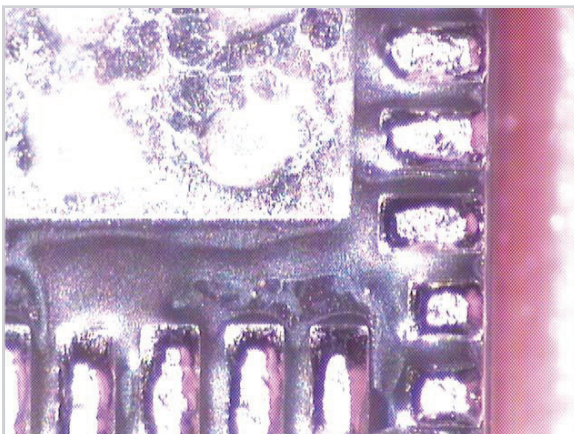
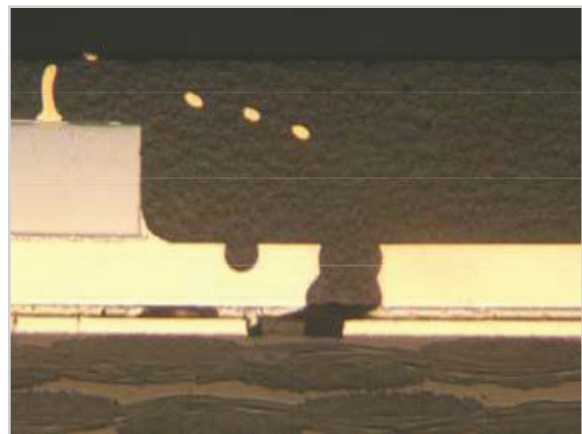

Figure 9 Goeey Flux Under Mechanically Removed QFN, Creating Pathway Between Pads and Ground
Figure 10 Cross-Section of QFN With 0.5 mil Standoff and Shifting to Reduce the 10 mil Gap to 4 mil
- 3 Surface mount flux entrapment** – on low standoff SMT components, such as QFNs, Power FETs and FLGAs, flux from the solder paste can be trapped underneath, where the solder paste flux hardens over the perimeter edges, trapping the volatiles under the part. This leaves goeey flux that is conductive and corrosive between ground and the back edge of the perimeter pads. These residues will stay goeey and conductive even when the reflow solder reaches liquidous and is held there for 3 minutes (Figure 9). Even though the solder is at temperature, the hard shell that forms at the edge blocks the venting of the volatiles that are designed to separate, keeping them under the component. These components that sit tightly to the board surface, at times within 0.5 mil, are at a great risk of this flux entrapment (Figure 10).